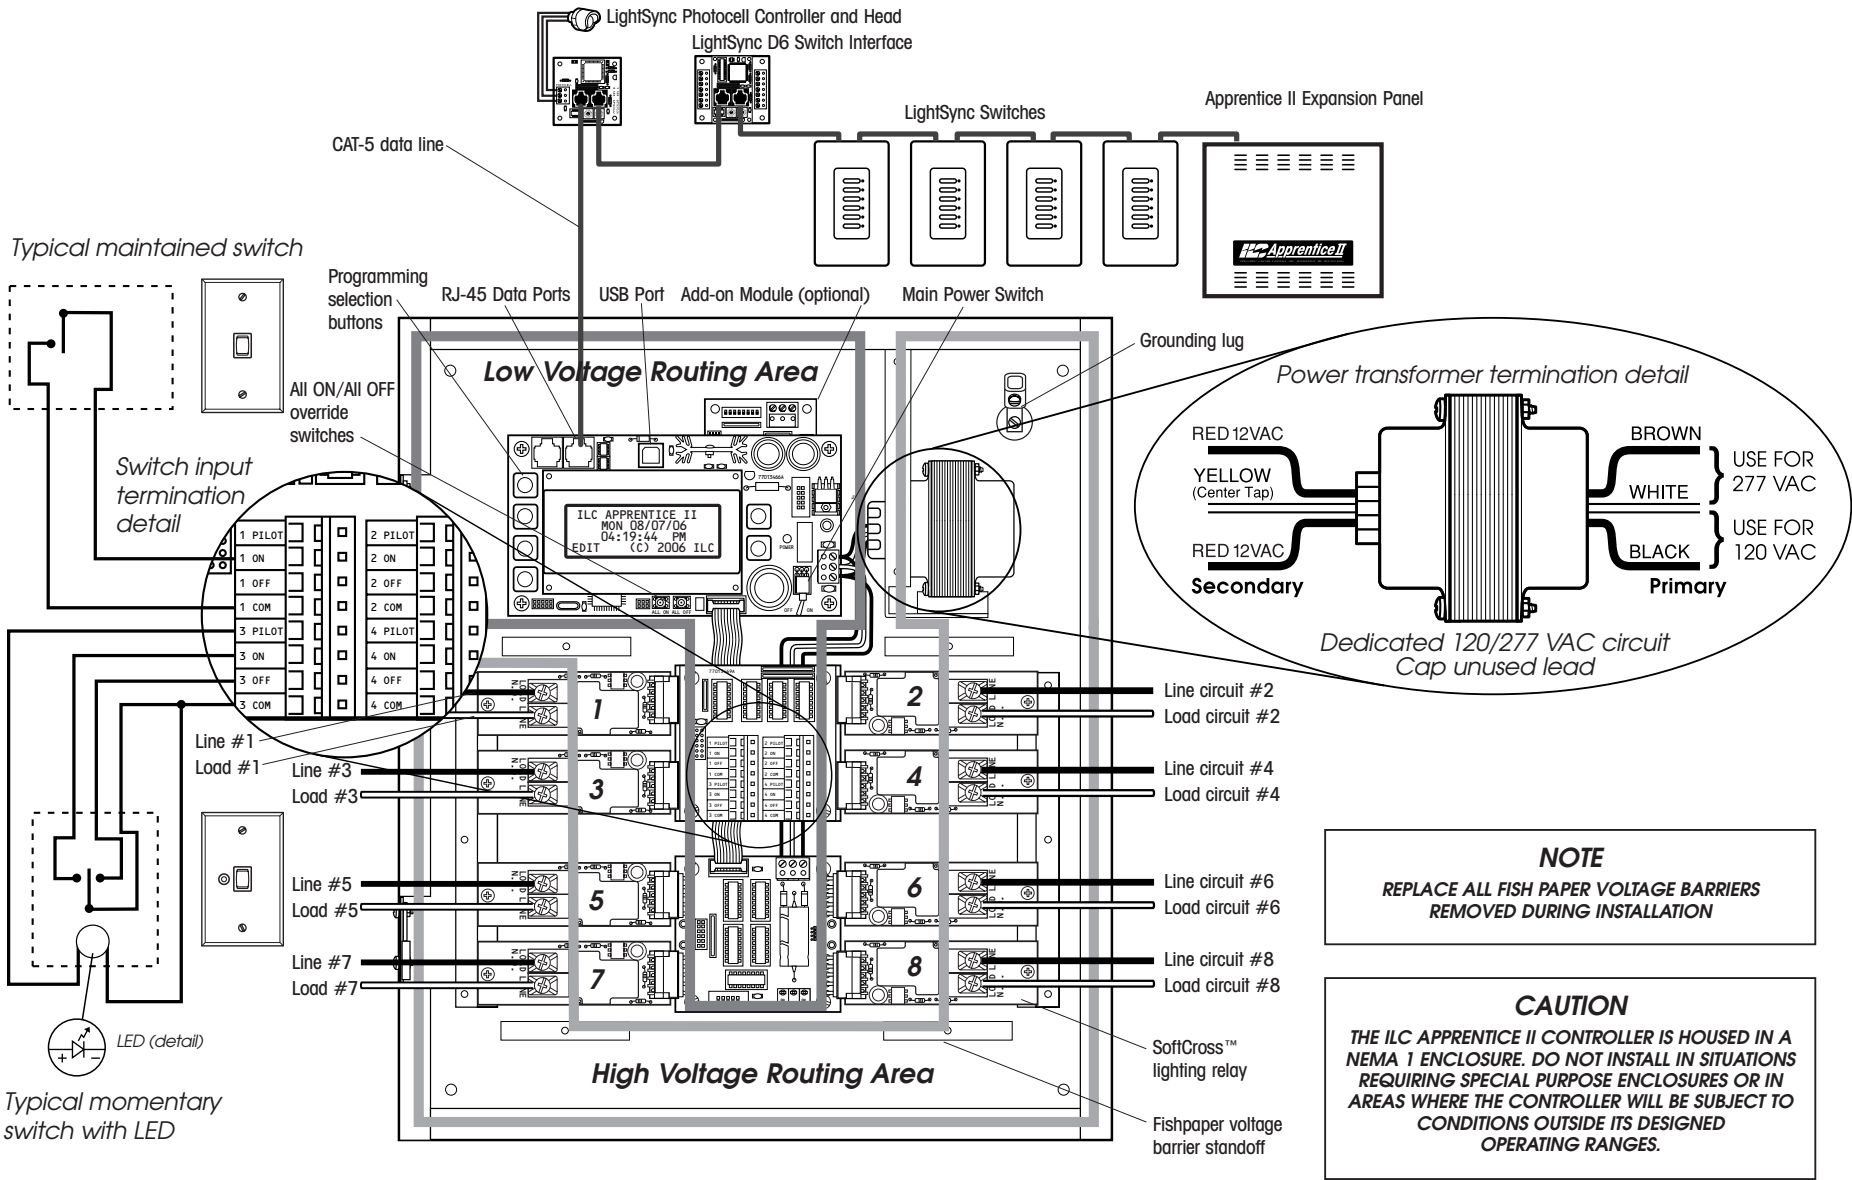

Figure 1 – ILC Apprentice II 08 Installation Detail
Run a dedicated 120 or 277 VAC circuit, including grounding conductor, and terminate it to the primaries of the ILC Apprentice II processor transformer. Cap the unused lead. (See Figure 1.)
3.2 Connect Line and Load – Connect line and load wires of the line voltage circuits to the Lighting Relays. (See Figure 1.)
2.3.3 Wire Switch Inputs - Wire the Class 2 Switch Circuits. (See Figure 1.) **NOTE:** Keep all Class 2 wiring separated from the high voltage wiring as shown in Figure 1.
Verify that there is 24 VAC on processor transformer secondary and 12 VAC between each leg and the center tap. (See Figure 1.)
1. Turn the power switch located on the CPU board ON. (See Figure 1.)
3. Verify that both power lights on each I/O board are lit. (See Figure 1.)
Switch all relays ON and OFF, pushing the All ON/All OFF override switches located on the CPU board. (See Figure 1.) Verify that the relay status LED goes ON and OFF and that the relay itself changes state. Verify that the relay controls the proper circuit.
2. Make sure that lighting control wiring is landed properly on the relay output of the I/O board(s). (Blue is common, red is ON, black is OFF, orange is status.) (See Figure 1.)